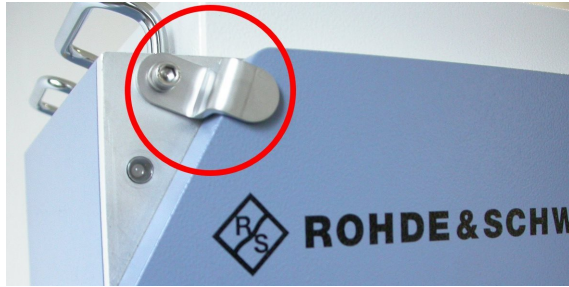

Figure 5-1: Metal safety latch
1. Fix the safety latch as described in Figure 5-1.
Ensure that the metal safety latch in the top-left corner of the chamber's door (Figure 5-1) secures the door against unintentional opening.